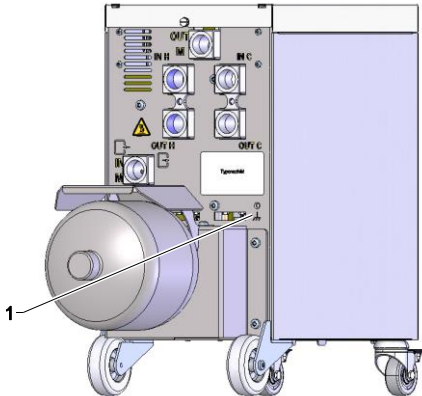

Fig. 16: Functional grounding
Large emitters of electromagnetic disturbance near the switching unit can influence its operation. In this case, the switching unit casing must be earthed with an grounding strap (for functional grounding connecting point, refer to (1) Fig. 16).